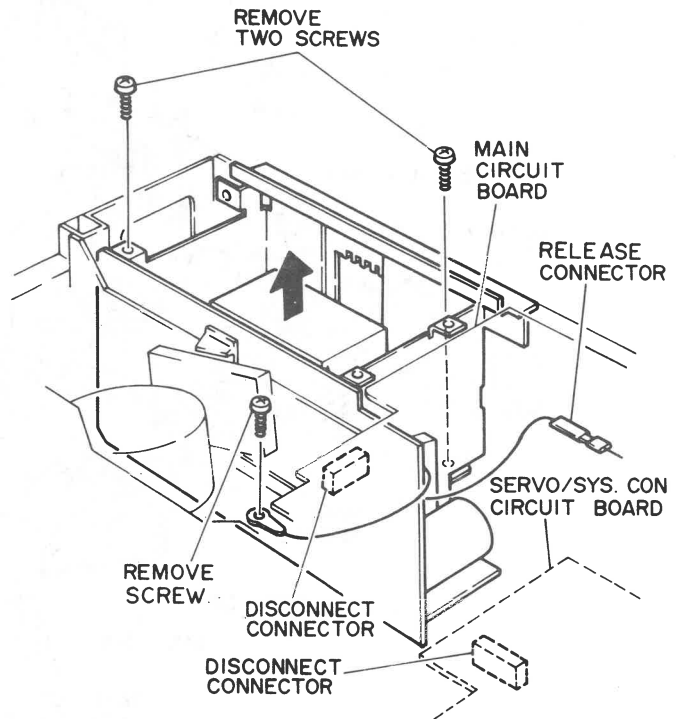

Fig. 7 Regulator/Power Supply Block Removal
1. Remove the top and bottom covers and refer to Fig. 7.